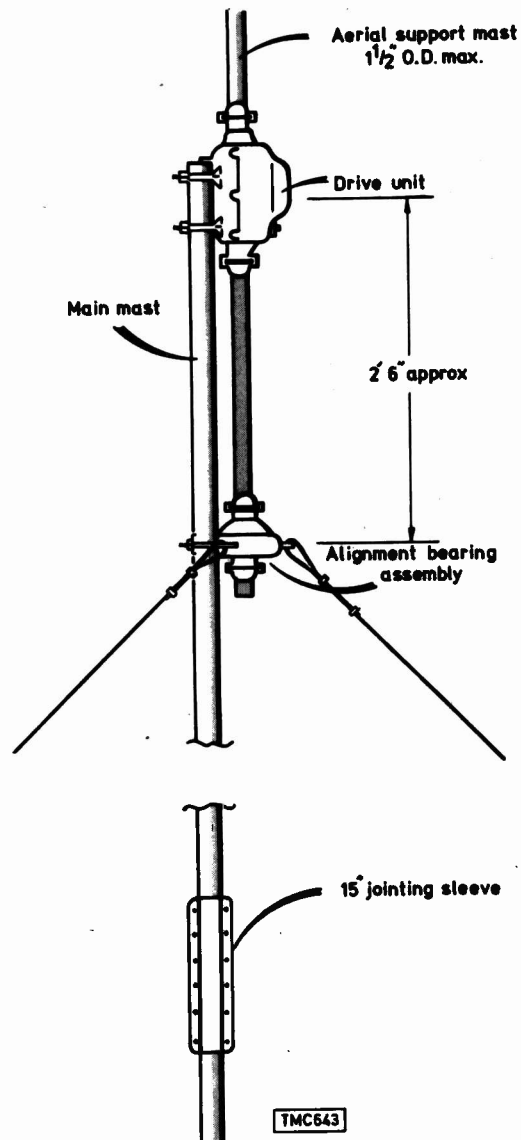

Fig. 3: The scaffold mast, showing the alignment bearing assembly which is recommended to remove stress from the rotator.
The general shape of the mast is shown in Fig. 3. The aerials have been omitted, but this particular mast design carried one 46-element u.h.f. group B array, one 10-element Band III array, a two-element Band II (TV) array which was fixed to the 2in. pole, and a four-element Band I aerial which, like the Band III and u.h.f. arrays, was fully rotatable through 360°.
There are several types of array rotators on the market, but the one described here is made by a West German firm. The drive unit is shown in Fig. 3 and this is connected to a control unit via a five-core cable. The control unit allows for array adjustment through 360°, and can be installed next to the receiver so that the best possible signal can be obtained at a glance. The only drawback with a professional rotator is its high cost. Typical prices range from £80 upwards, but cheaper types may occasionally be found – it's worth bearing in mind the number and size of the arrays to be used however.
Some installations may require only an occasional adjustment in direction, whilst others may take quite a hammering. If the latter is the case, a good sturdy rotator is essential. An alignment bearing is also suggested, as shown in Fig. 3. If heavy aerials are used it may be a good idea to have another bearing above the rotator if this is possible. When tightening the nuts on the rotator and alignment bearing any specific sequence indicated by the manufacturers should be followed so that undue stress does not occur.